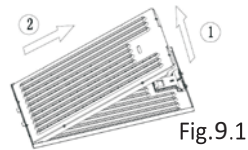

Fig.9.1
- Filters are used to absorb the grease particles formed during cooking process. The filters must be removed and cleaned every week, depending on the frequency of usage. The filter can be removed by sliding out the 2 S/S panel (Fig 9.1) Clean the filter either by hand or in the dishwasher.